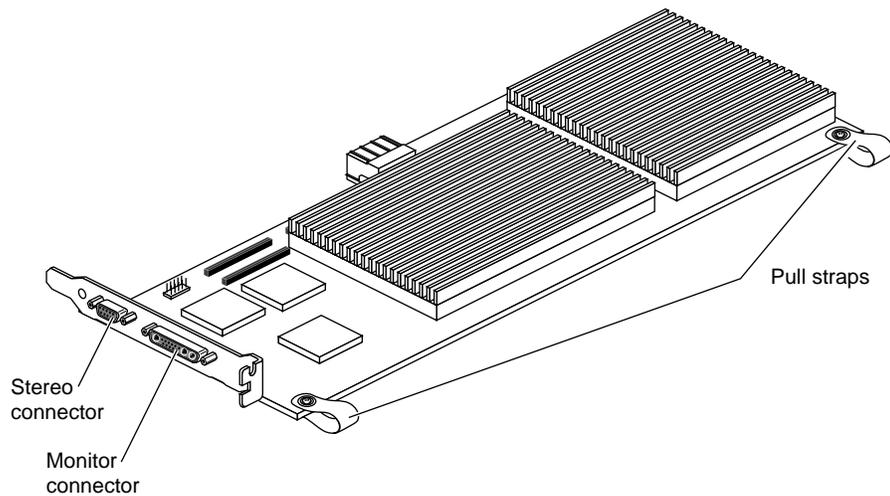

Figure 1-24 Preparing the Indigo² Solid IMPACT Graphics Board
3. If no option board is attached to the Indigo² Solid IMPACT graphics board, remove the pull straps from the top of the board, as shown in Figure 1-24.